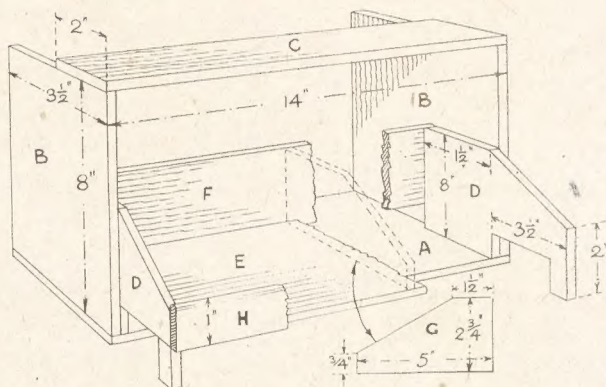

Fig. 2—Cut-away view showing constructional details
Commence construction by marking out and cutting the main floor (A) in Fig. 2. This measures 14ins. by  $3\frac{1}{2}$ ins., and to this are attached the upright ends (B), measuring 8ins. by  $3\frac{1}{2}$ ins. Cut all these pieces square, using for the purpose a
For the ends of the racks we shall want two pieces cut to the shape and dimensions shown on the right-hand end of the frame, as (D) in Fig. 2. After making one end, lay this on the next piece of wood and draw round it to get both shapes identical. For the interior divisions of the rack, two or three, according to the number of spaces required, will be cut to the outline
shown as detail (G) in Fig. 2. These are again of  $\frac{1}{4}$ in. wood, of course.
Next mark out and cut the floor of the rack (E) in Fig. 2. This is 13ins. long and 5ins. wide, glued and nailed between the two ends (D). To the back edge of (E) and also to the back upright edges of the ends (D), the back of the rack (F) must be glued and nailed. This piece is  $13\frac{1}{2}$ ins. long by 3ins. wide, and before fixing, the top edge should be rounded with coarse and fine glasspaper. The back edge of piece (C) should also be rounded off.
Space in the bathroom is often limited when there is a baby in the house. In the sketch at Fig. 2 is shown a board which will conveniently fit across the large bath and thus prevent the energetic youngster from causing so much spare water when he or she splashes about.